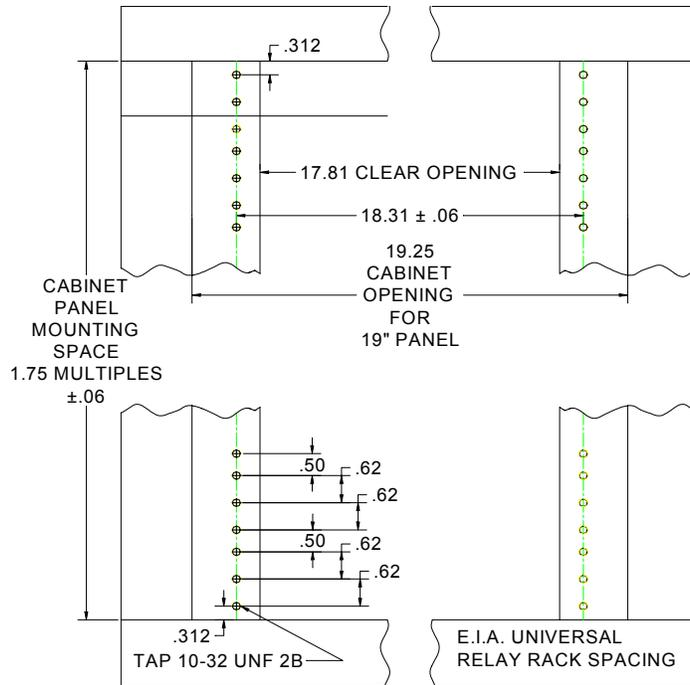

Figure. 1
1.1 The Model 20-2000 Controller Power Supply 7-inch high front panel conforms to the criteria of the EIA standard for universal 19-inch relay rack spacing. Using this method allows components with different panel widths to be placed at different positions in the rack. Figure 1 shows the spacing of an EIA relay rack.
When installing the relay rack rails, ensure that the equipment-mounting holes follow the pattern in Figure 1.